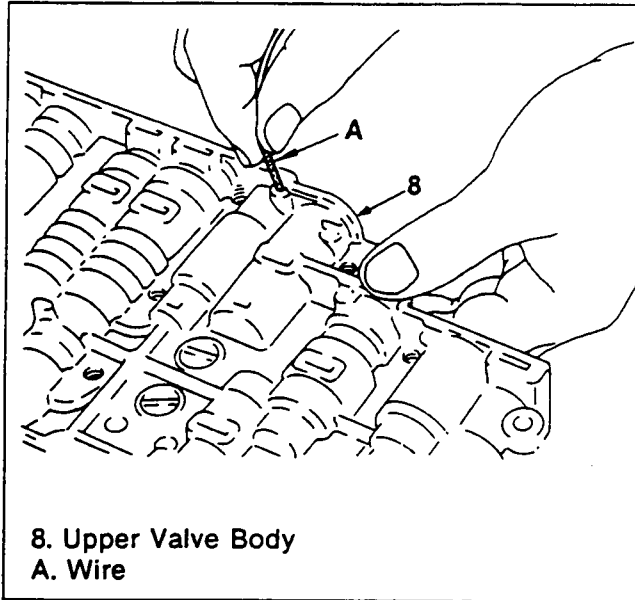

Figure 105. Pin Removal (1)
2. Push pin out with some fine wire (figure 105).